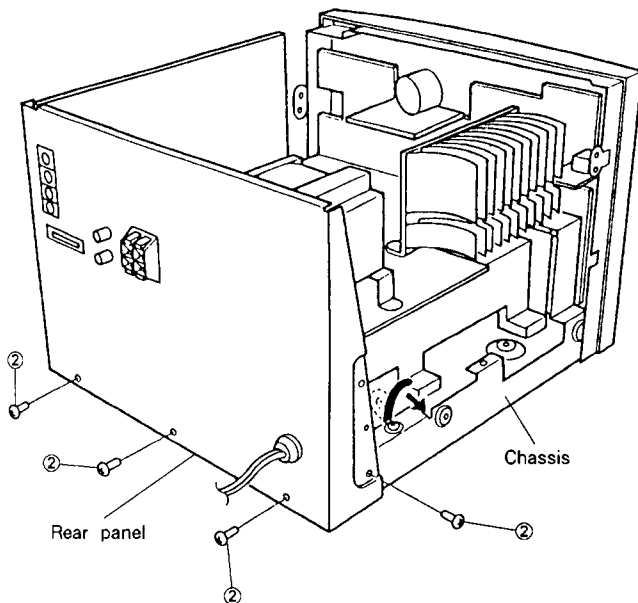

Fig. 7-2
3. Remove four screws ② and a binder to remove the rear panel from the chassis as shown in Fig. 7-2.